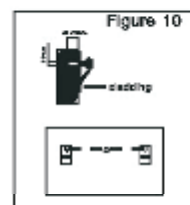

Figure 10
(2) knock two plug bolts slightly into the open holes (shown in figure10), then fit two claddings into plug bolts and wind the nuts, Make sure that the claddings are fastened to avoid that it may drop from the wall.